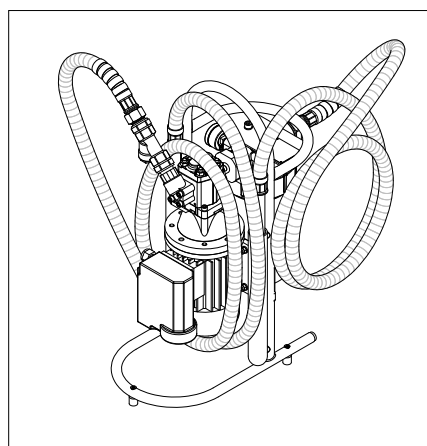

fig. 7
- (Fig. 7) Frequency of maintenance of the Y-shaped suction filter should be determined in the maintenance schedule based on the contamination conditions of your specific application, however no later than 6 months
- For the disassembly and the assembly of the parts, please see fig. 7 to 9